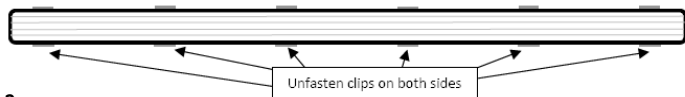

Fig. 2
- Unfasten the clips on either side of the fitting (see Fig. 2)